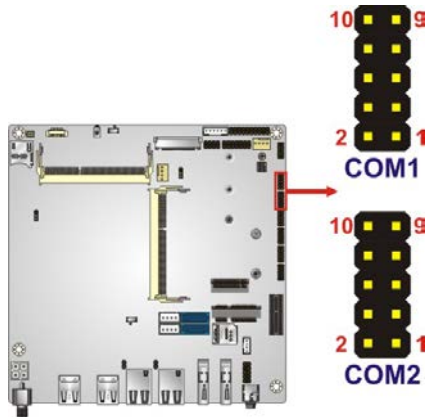

Figure 3-16: RS-232/422/485 Connector Locations
- CN Location:** See **Figure 3-16**